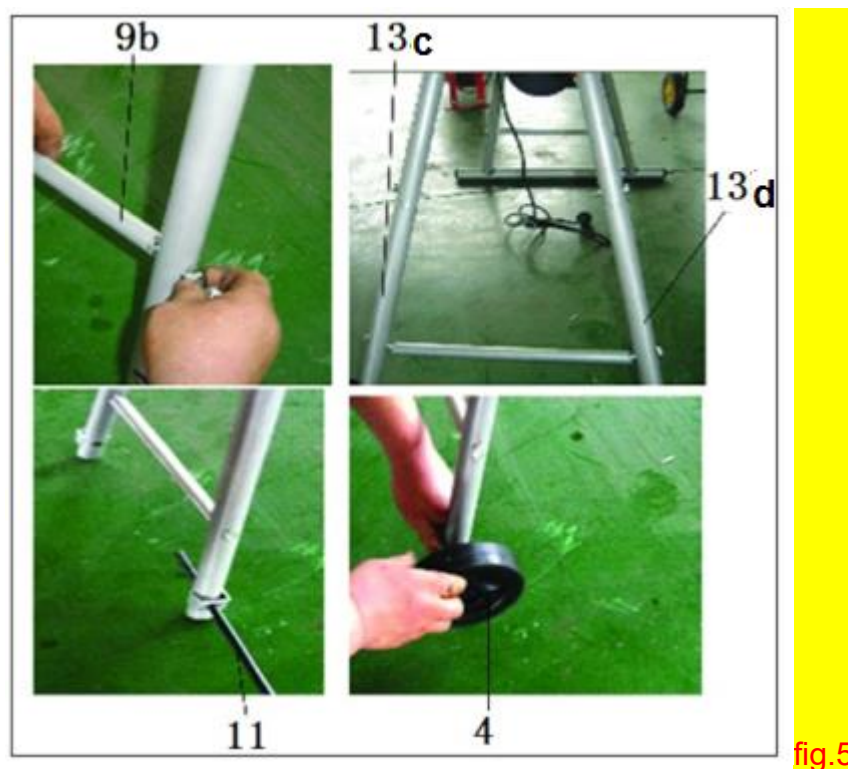

fig.5
d) Connect horizontal shaft (9b) to back stand (13c&13d) with bolts, assemble the wheel shaft (11) and wheels with four spring washers, the last fit wheel covers (fig.5).